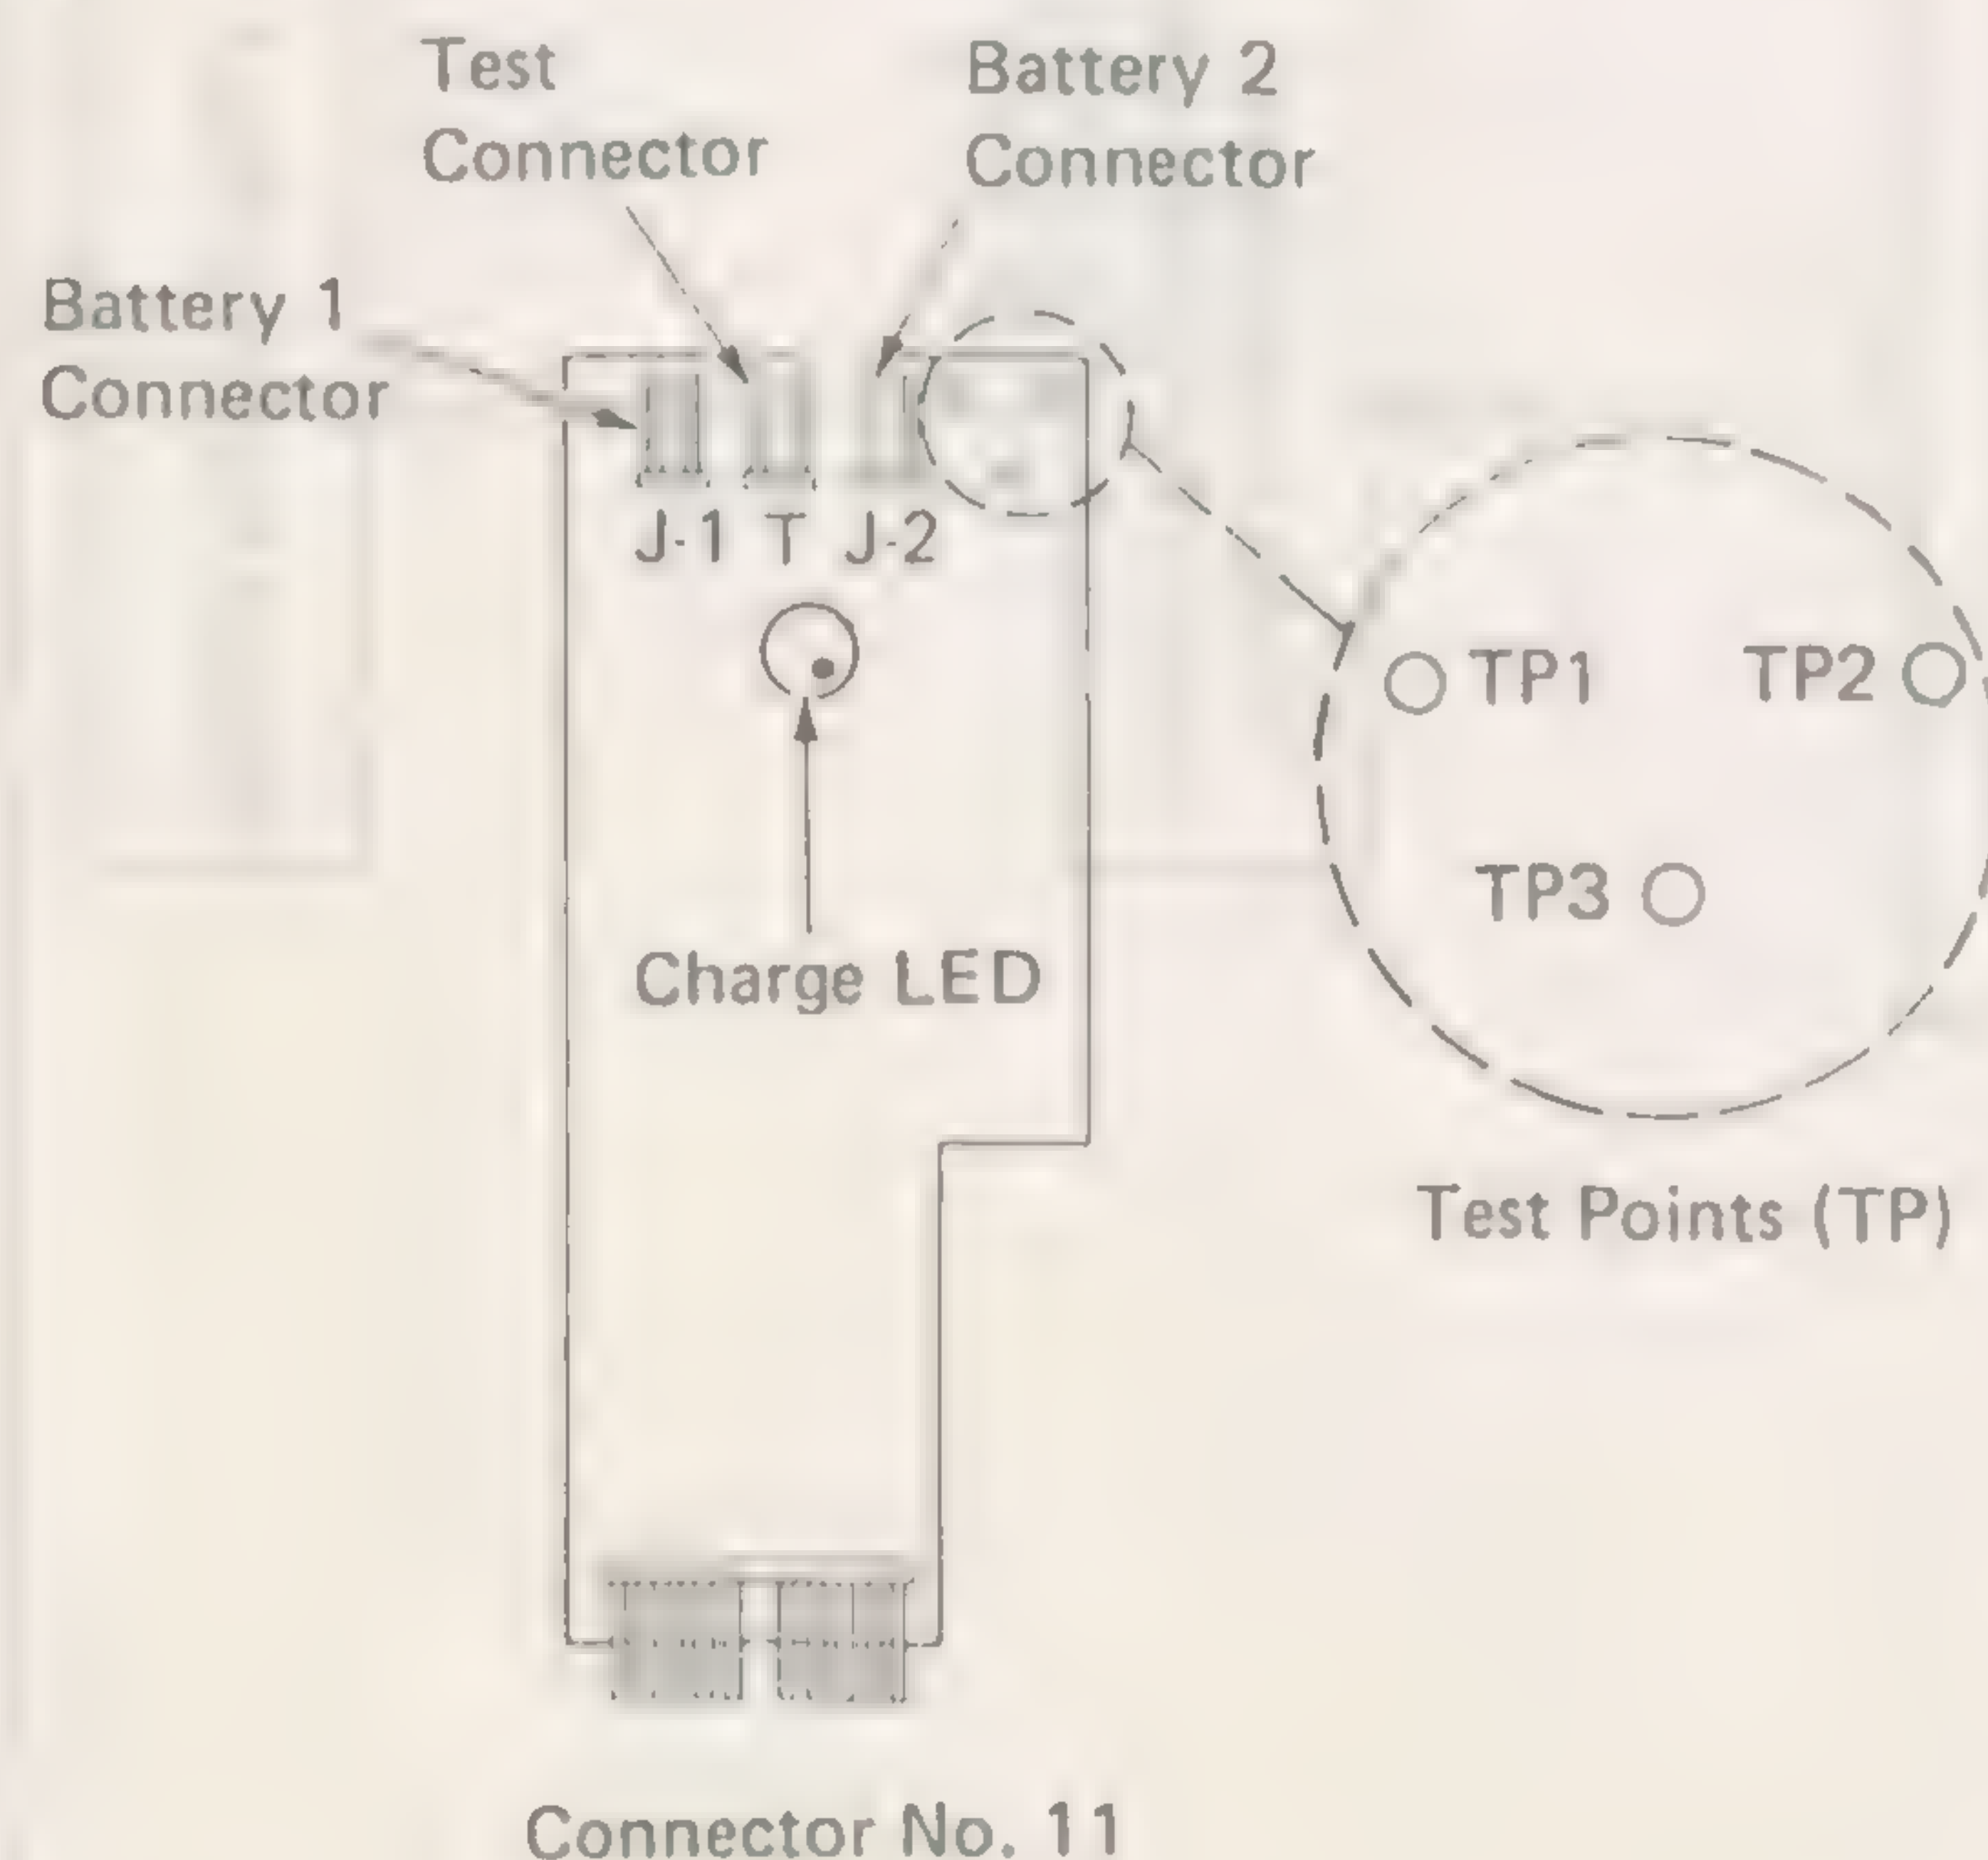

Figure 1
The MP control card is mounted to the brackets on the right side of the keyboard with one insulated screw and two metal screws. The MP control card controls the memory support operation as described in the theory of operation. It is connected to the power supply by the MP cable. The MP indicator, batteries and MP switch are also connected to the MP control card. A charge LED is mounted on the MP control card for CSR use. During the diagnostic check, the charge LED will light to indicate that the charge circuit is functioning properly. In addition, there are test points and a test connector to check the batteries. (See Figure 1.) The test connector is labeled T; the battery connections are labeled J-1, J-2, and the test points (TP) are labeled TP1, TP2, and TP3.